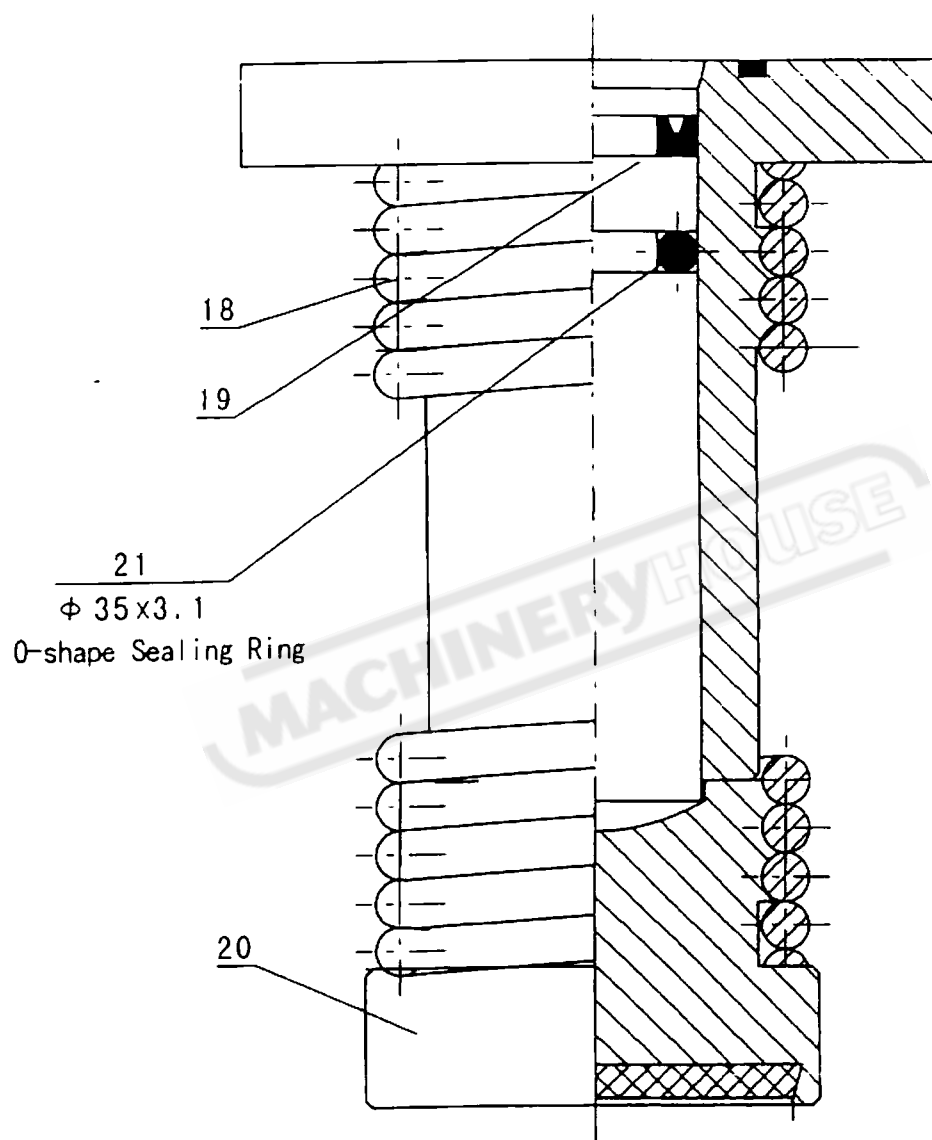

Fig 4 Swaging oil Cylinder
It is consisted of several plate-pressed oil cylinders (figure 4) which are fitted on the supporting board in front of the frame. The plate pressed head will overcome the pulling force of the spring(18) and press down after the plate-pressed oil cylinder is filled with oil. Press the plate tightly. After shearing, it will come back to its original position with the help of the pulling force of the spring. The plate pressed pressure can be increased with the thickness of the sheared plates increasing.